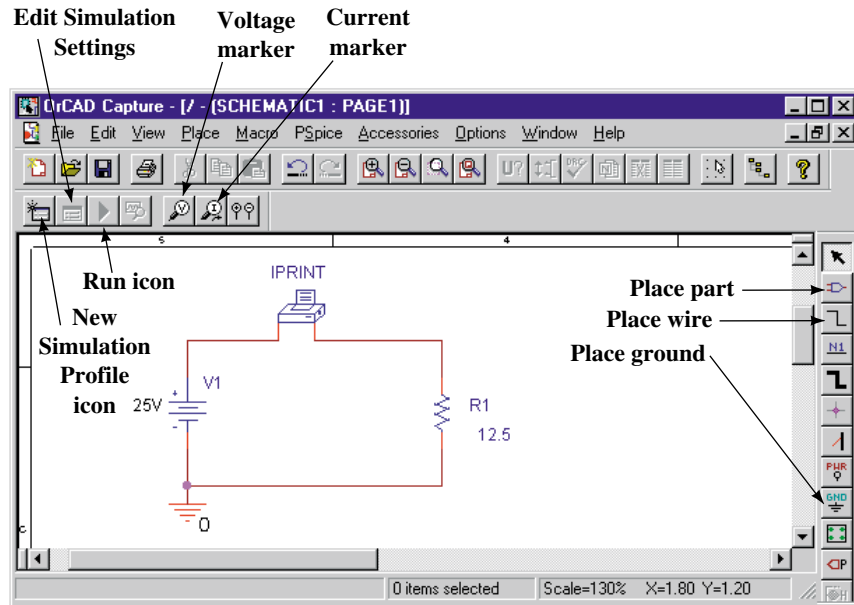

FIGURE 4-30 OrCAD PSpice simulation of Figure 4-27. Note that PSpice uses V for sources instead of E, although you can change this if you wish.
- All components have default values that need to be changed. First, consider the resistor. Its default value is 1k Ω . To change it, double click the 1k value (not the resistor symbol), type 12.5 into the Value box, and then click OK. Similarly, double click the IPRINT symbol, click the Parts tab (bottom of screen) in the Properties Editor, then scroll right until you see a cell labeled DC. Type yes into the cell and click Apply. Close the editor by clicking the $\times$ box in the upper right-hand corner of the Properties Editor window. This returns you to Figure 4-30.
- Click the New Simulation Profile icon (Figure 4-30). Enter a name (e.g., **Figure 4-30**) in the Name box. Click Create. A Simulations Setting box opens. Click the Analysis tab. From the Analysis type list, select DC Sweep. From the Options list, select Primary Sweep. Under Sweep variable, choose Voltage source. In the Name box, type the name of your source. (It should be V1. Check your schematic to verify.) Click the Value list button, type 25V into the box, and then click OK. (This sets the voltage of your source to 25 V but it does not update the screen display. If you want to update the value on your screen, double click the default value (i.e., 0V, not the battery symbol), type 25V in the Value box, and click OK.) Click the Save Document icon to save your work.